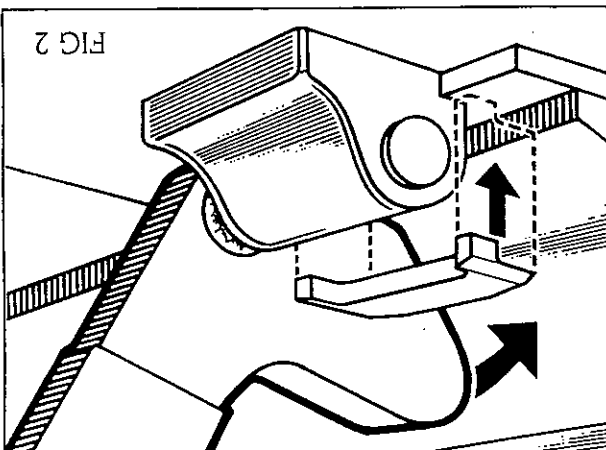

FIG 2
- The head of the tool is placed against the web of the rail (Fig 2).